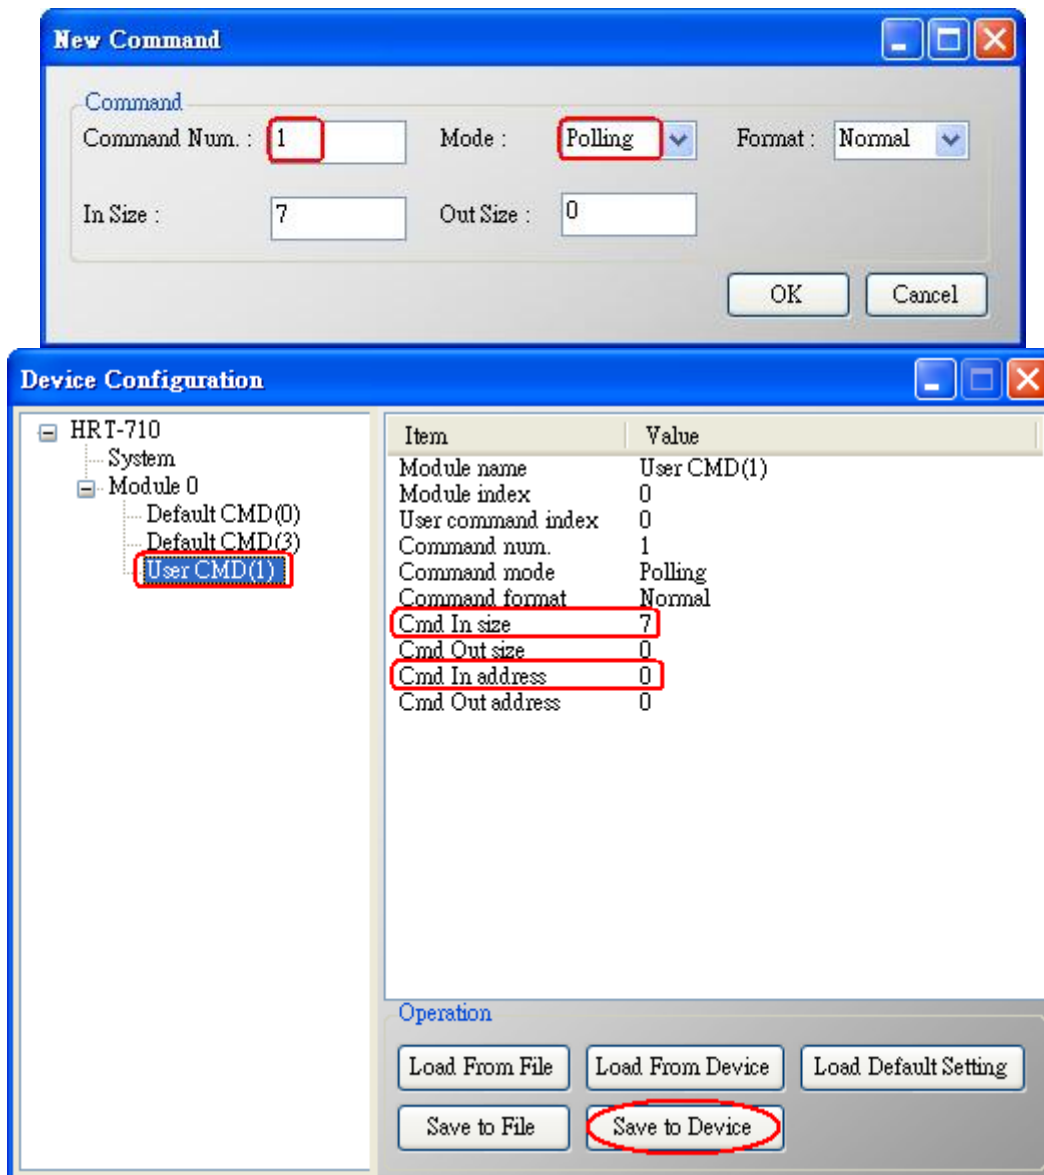

Figure 5-1 Add “User CMD(1)” of HART device to HRT-710
(1) By using “HG\_Tool” to add “User CMD(1)” of HART device and save settings to HRT-710. The Modbus start address and length of the “User CMD(1)” will show in the “**Cmd In address**” and “**Cmd In size**” field like Figure 5-1. In the example they are 0 and 7 (byte count=7 => word count=4).